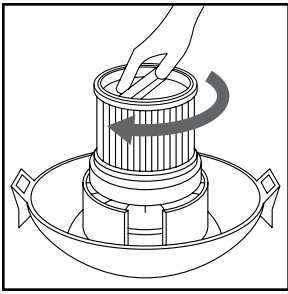

FIGURE 12
17. Hold the tank cover with one hand, turn the handle on the filter retainer clockwise to tighten, locking the filter into place. (**FIGURE 12**)